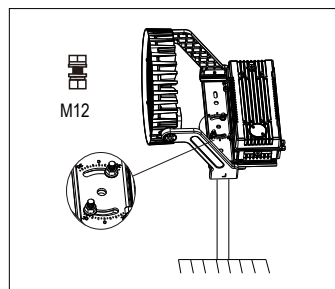

Figure 7
1. Adjust the lighting direction as needed with 360° rotation, then secure it by tightening the screws (Figure 7).